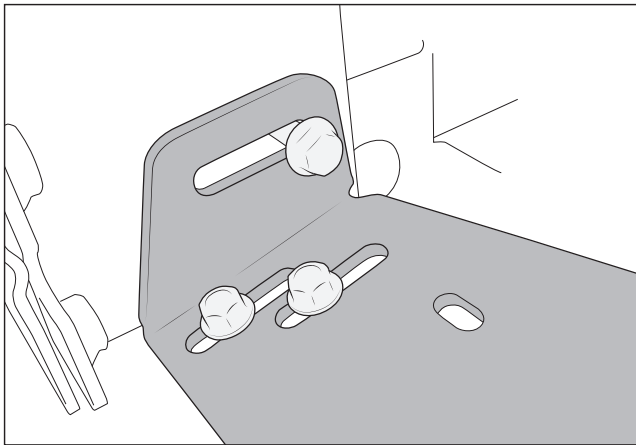

Figure 13
- Bolt winch plate in place to the support brackets using the provided M10x40mm bolts and nuts. Bolts should be inserted from the top down. Hand tighten, do not fully torque (fig. 13).